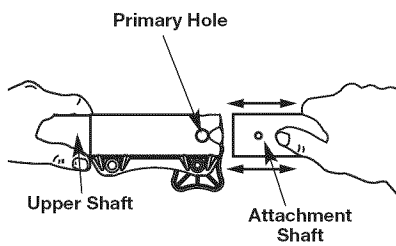

Fig. 3
- While firmly holding the trimmer attachment or other attachment, push it straight into the Convertible™ coupler until the release button snaps firmly into the primary hole (Fig. 3).
- While firmly holding the upper shaft, pull the trimmer attachment or other attachment straight out of the Convertible™ coupler (Fig. 3).